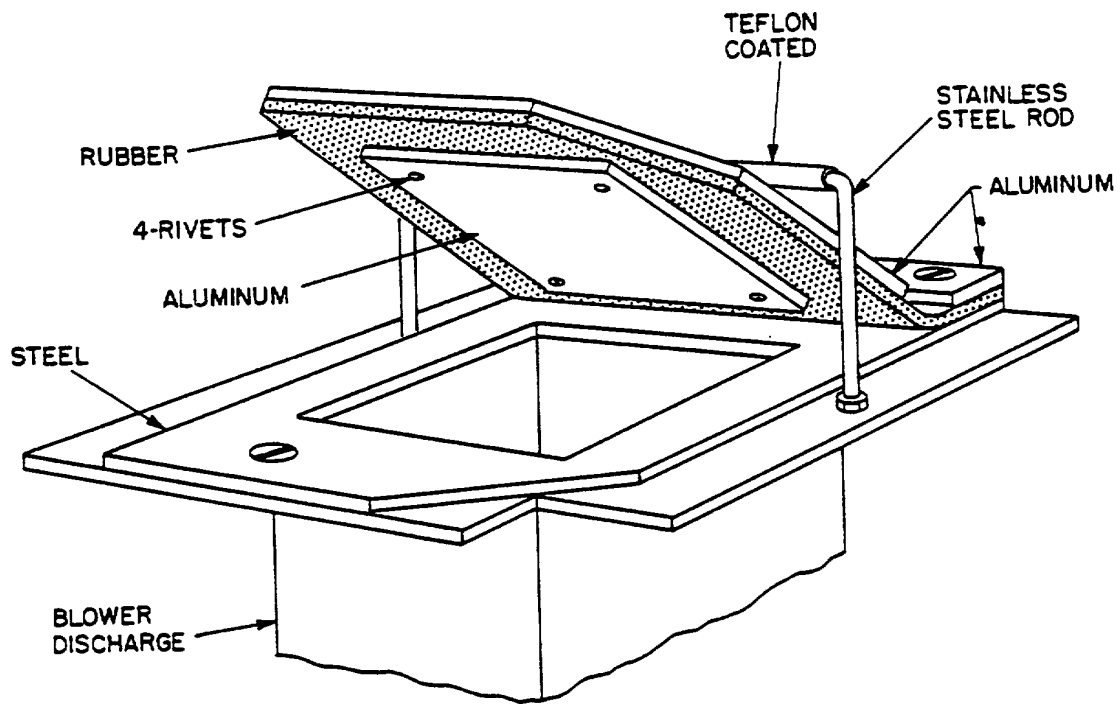

Figure 4-3. Blower Discharge Flapper Valve
- 4.7 The suction blower must be installed upright so that the blower discharge flapper valves are in a closed position when the blowers are turned off (see Figure 4-3).